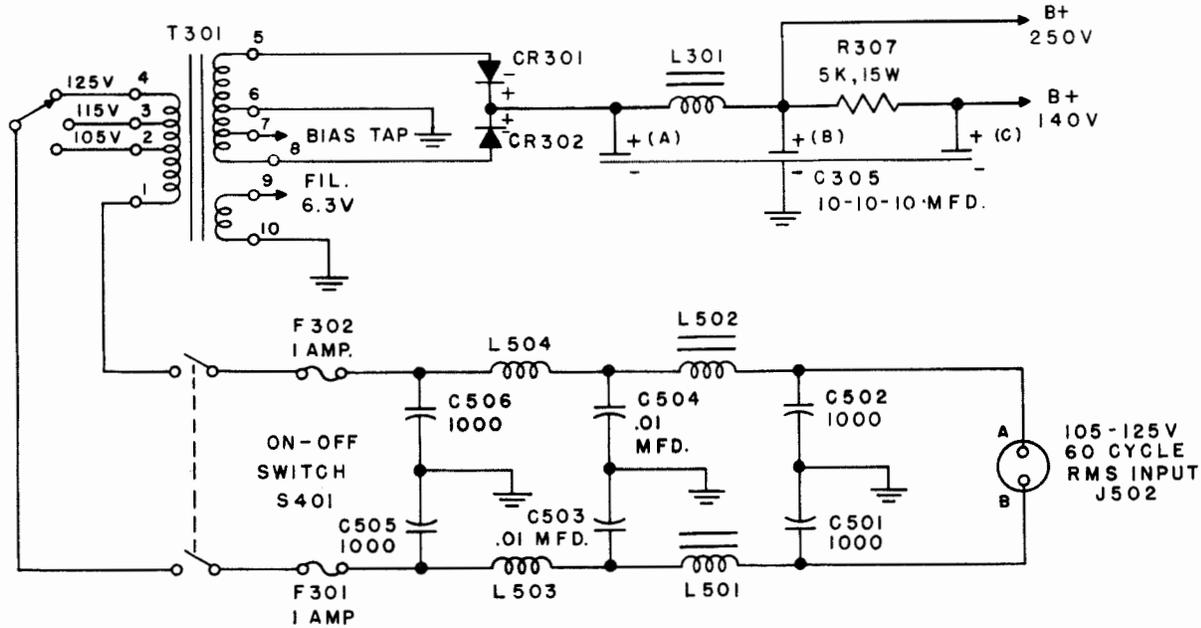

Figure 2-22. Simplified Schematic, High Voltage and Filament Supply
(2) POWER SUPPLY.—As shown in the simplified schematic, figure 2-22, the power supply consists of a full-wave rectifying system, using selenium rectifiers and provides for multi-tap selection of the AC voltage source. A two-pin POWER receptacle (J502), located on the rear compartment, provides connection to the AC power source. Both sides of the AC line pass through an RF filter system, located in the rear compartment. This filter is composed of two sections, the first section consisting of C501, C502, L501, L502, C503 and C504. This section will attenuate signals in the range of 200 Kc to 8 Mc. The second section, composed of L503, L504, C505 and C506 will attenuate signals above 8 Mc. Both sides of the AC line then pass through two fuses F301 and F302, which are 1 amp 3 AG slow-blow fuses. Slow-blow fuses are used to prevent current surges from opening the fuses if an intermittent connection is made to the power source. The AC line then passes through the double pole single throw POWER switch (S401) which is mounted on the front panel. The AC line then connects to the primary of the transformer T301 through a single pole three position switchable link which is mounted on TB301, located on the under side of the power supply chassis. This switch is used to select one of the three taps of the primary of T301, which are labeled 105 volts, 115 volts and 125 volts. The voltage of the AC power supply should be measured and the appropriate tap selected. The power transformer T301 has two secondaries, one of which supplies 6.3 volts AC